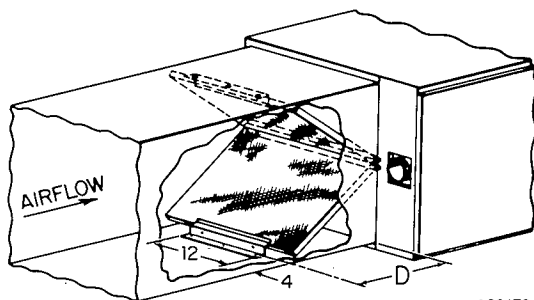
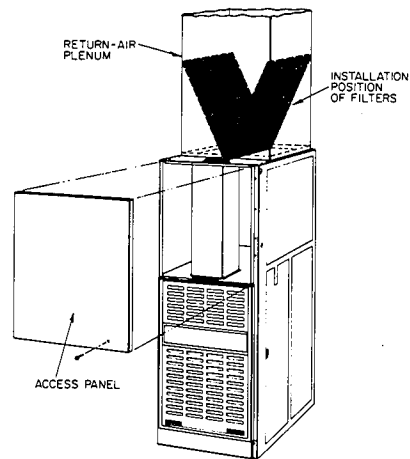

Fig. 10—Horizontal Filter Arrangement
Fig. 11—Position of Filters
- c. Install field-supplied filter retainers as indicated in Fig. 10 and Table 5 before connecting return-air duct to furnace.
The two factory-supplied filters are shipped in the blower compartment. After the return-air duct has been connected to the furnace, install the filters in a V-formation inside the return-air plenum. See Fig. 10 and Table 5 for horizontal applications. See Fig. 11 for downflow applications.